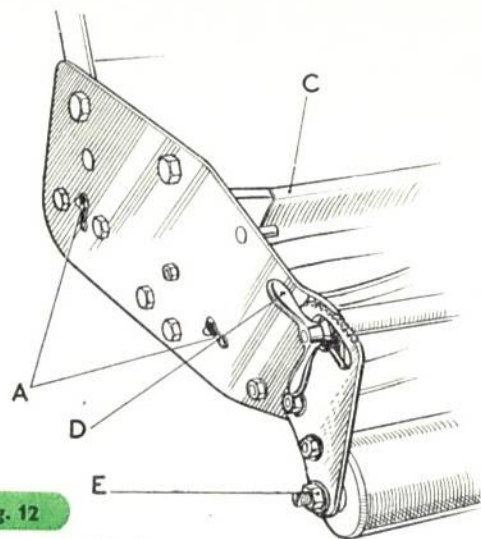

Fig. 12
7. Cutter shaft bearing and rear roller shaft bearing on the other side of machine. Access is provided by sliding two oil hole covers (A, Fig. 12) aside.